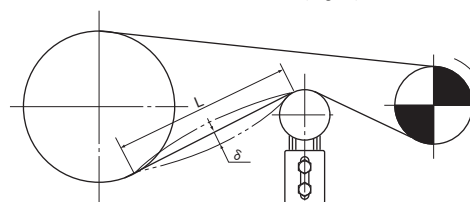

Fig. 7 Tensioner's anchored position
- 4) Push in on the chain with the tensioner and, if the amount of slack is appropriate (δ), tighten the nut and anchor the tensioner. Aim for a value less than $\delta = 0.02 \times L$. (Fig. 7)